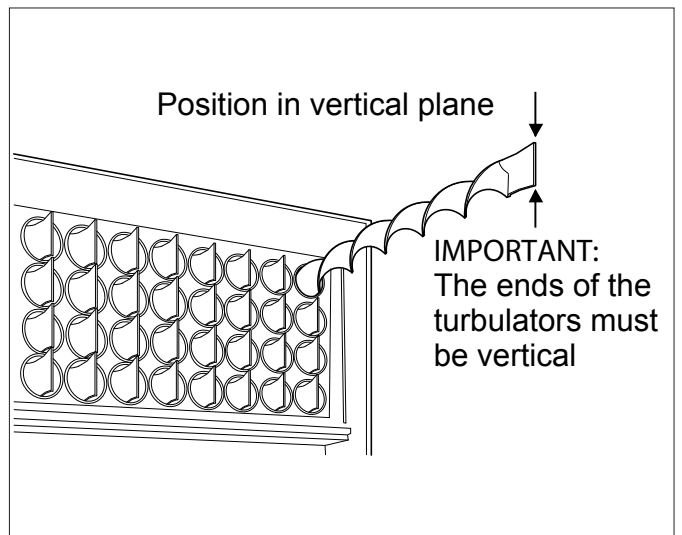

Figure 11-6: Turbulators
7. Pull out the spiral turbulators from the heat exchanger tubes. See Figure 11-6. Clean the turbulators using a stiff brush.